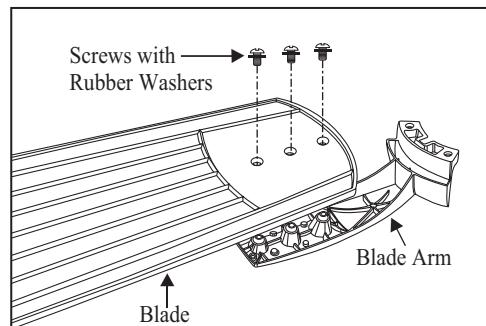

Figure 13
1. Attach blades to blade arm using the screws with rubber washers provided. (Fig. 13) Start a screw into the blade arm, do not tighten. Repeat for the 2 remaining screws and washers.